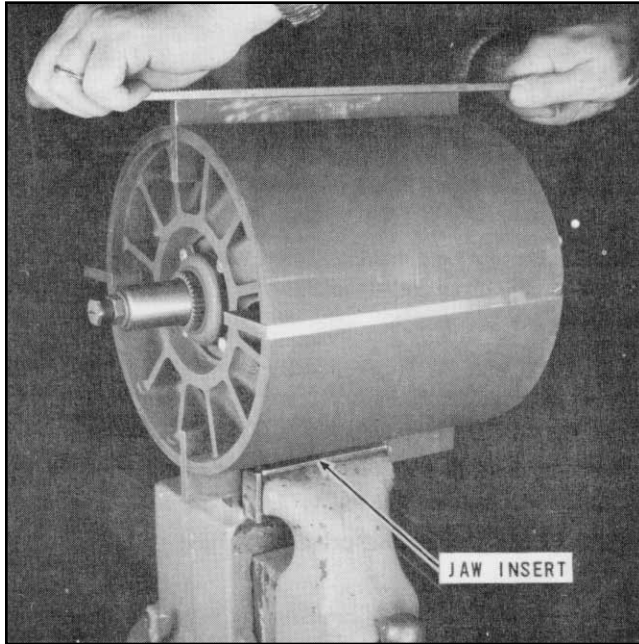

**Figure 29**
- Support the rotor assembly in vice or vertically on wood blocks of sufficient height so that the blade ends can be dressed down the full length, Figure 29.